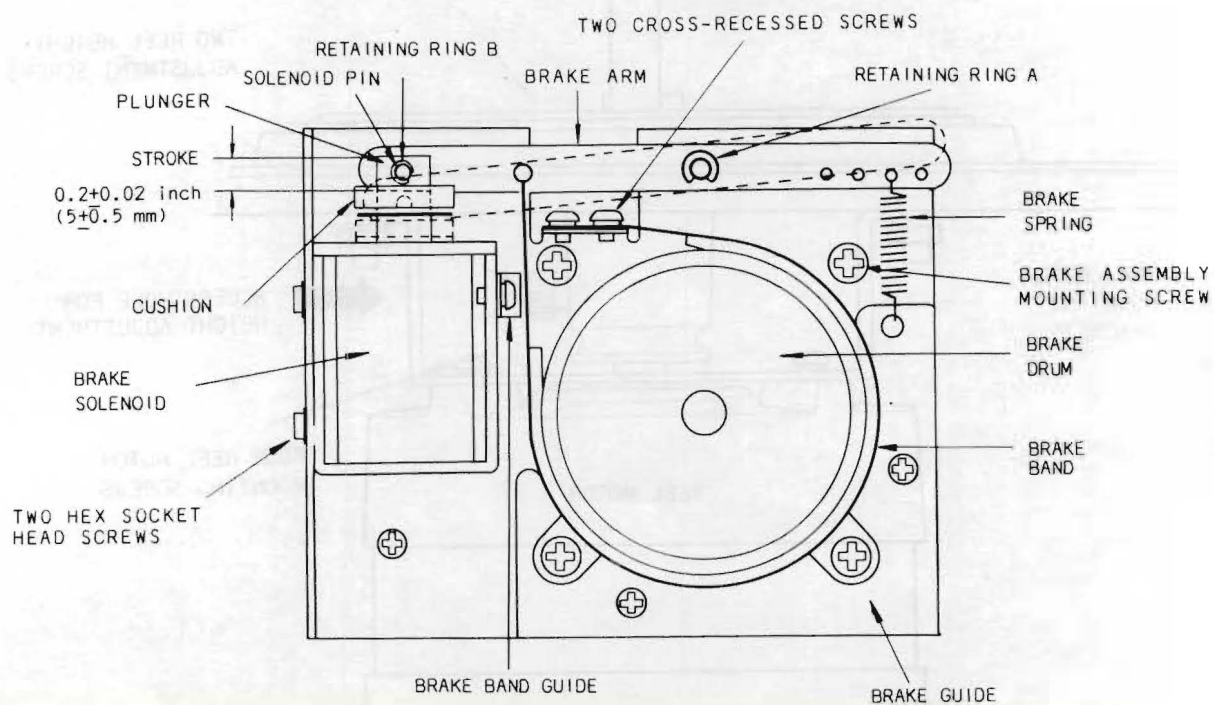

Figure 8-2 Brake Assembly
4. Remove the brake assembly and the brake drum by removing the four brake assembly mounting screws and two hex socket head screws on the bottom of the reel motor as shown in Figure 8-2.
When a new brake arm assembly or new brake solenoid is installed (Figure 8-2), it is necessary to position the brake guide and/or brake solenoid to ensure uniform brake band clearance around the brake drum when the solenoid is energized.